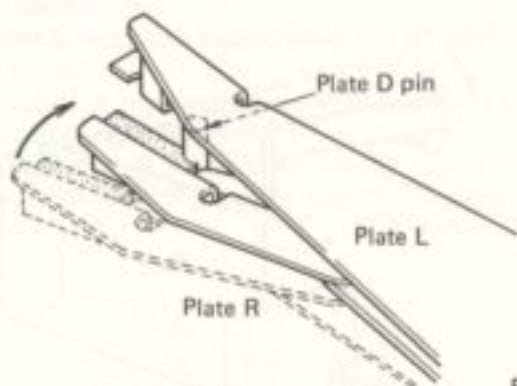

Fig. 19
6. While gear B makes a  $\frac{1}{2}$  turn, gear B groove moves pawl C of plate R toward pin shaped section of plate D (Fig. 19).